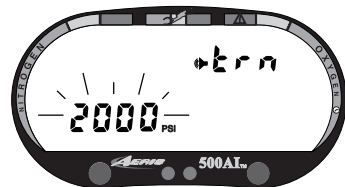

Fig. 22 - Set Turn Pressure
- the Alarm icon and 'trn' appear with the Pressure value flashing (Fig. 22)